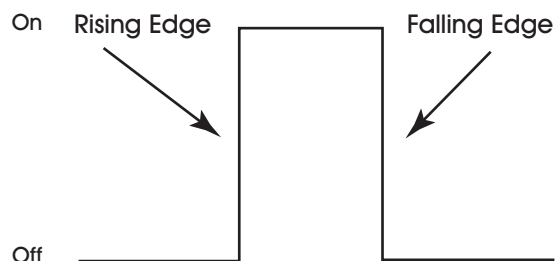

Figure 3-2: Rising and Falling Edges of a Pulse
The **(MD) Pulse Counter Mode** property defines how the *NB-GPC2* will detect a pulse. There are two ways that a pulse can be detected, by sensing the rising edge of the pulse (**MD=0**), the falling edge of the pulse (**MD=1**), or both (**MD=2**). The differences between the rising edge and falling edge of the pulse are shown in Figure 3-2.